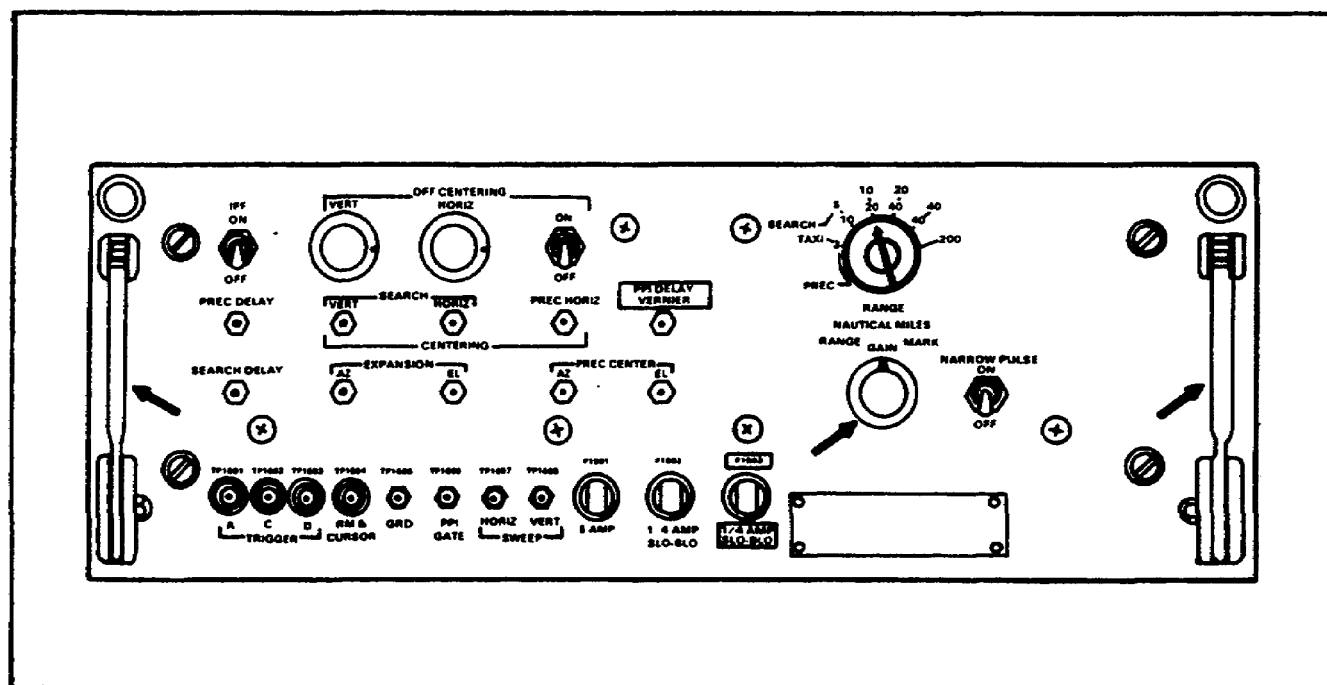

Figure 7. Synchronizer-generator, electronic-marker SN-386/FPN-40.
f. Locate range mark gain control R1512 and release latches on the synchronizer-generator, electronic-marker SN-386/FPN-40. (See Figure 7.)
- _____ Synchronizer-generator, electronic-marker SN-386/FPN-40 (Figure 7)
- _____ Release latches for various drawers (Figure 7)
- _____ Range mark gain control R-1512 (Figure 7)